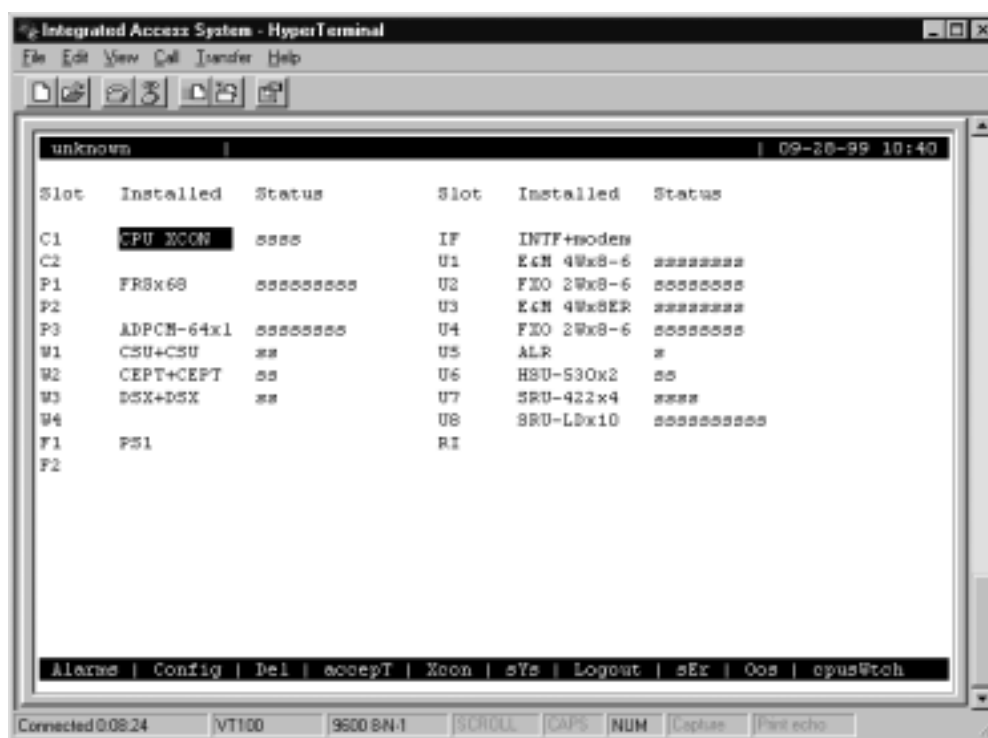
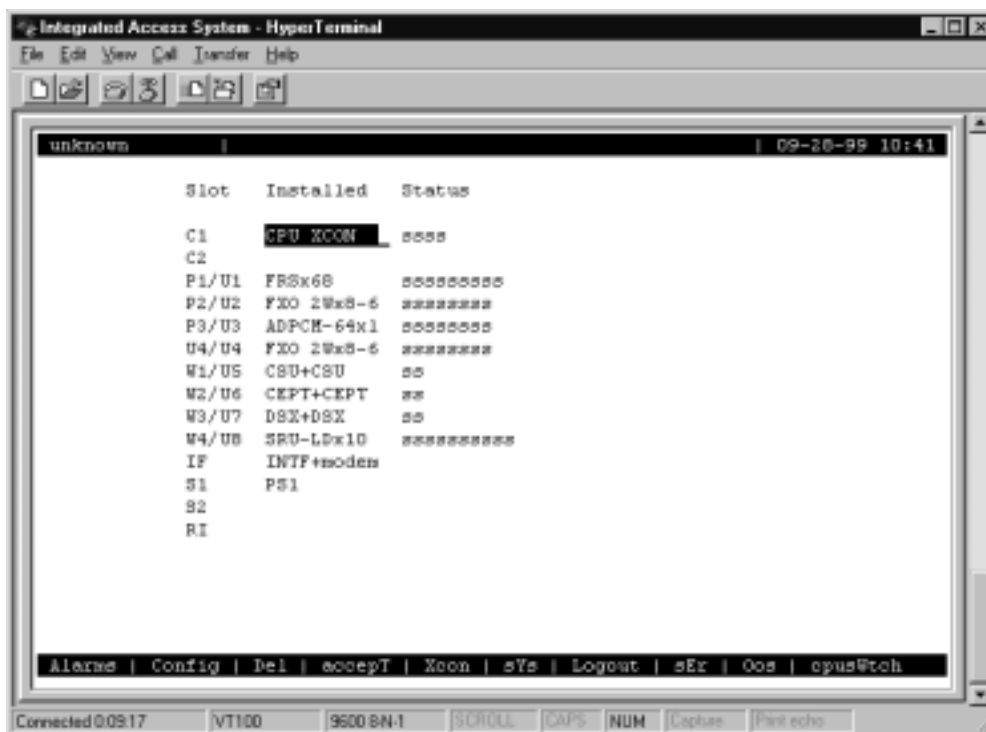

Figure 5-7. Main Screen (Two-Sided and Front-Loading Chassis - Power Supplies on Top)
Figure 5-8. Main Screen (Front-Loading Chassis Power Supplies on the Side)
4. A System Main Screen appears. Figure 5-7 shows this screen for a two-sided chassis and a front-loading chassis with power supplies on top. Figure 5-8 shows a similar screen for a front-loading chassis with power supplies on the side. Refer to the next section for a discussion of the Integrated Access System's user interface screen hierarchy.